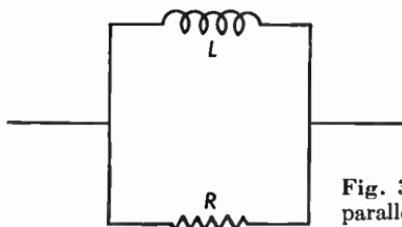

Fig. 3.17 Resistance and inductance in parallel.
3.17 In Figure 3.17, $L = 15$ millihenries, $R = 75,000$ ohms; the frequency $f = 550$ kilocycles. Find the equivalent series circuit and the power factor.